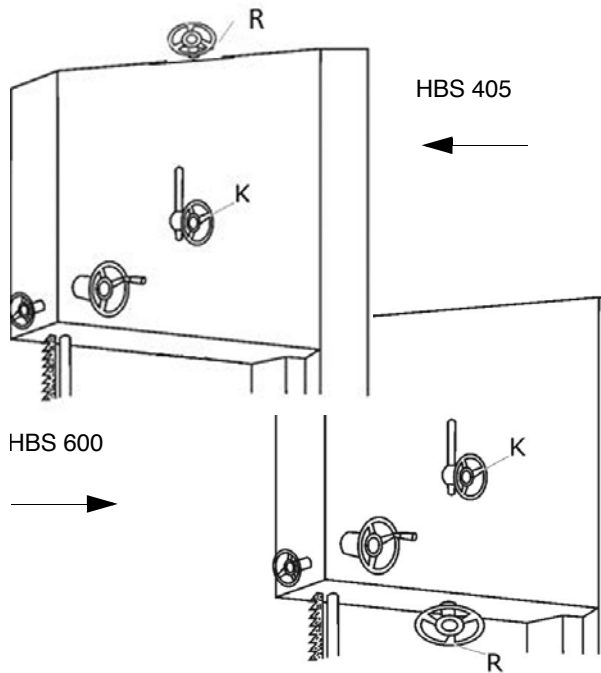

Fig. 12: Adjustment wheels for blade run and blade tension
Step 5: Loosen the saw band run adjusting wheel (Pos. K, Fig. 12).
Step 6: Reduce the tension of the saw band by turning the band tensioning handwheel (Pos. R, Fig. 12).
Step 9: Tension the saw band with the band tensioning handwheel (Pos. R, Fig. 12).
Step 10: Check with a few manual turns whether the running surface is correctly seated (the saw band should be in the centre of each of the two running wheels). If necessary, readjust by means of the saw blade run adjusting wheel (Pos. K, Fig. 12).